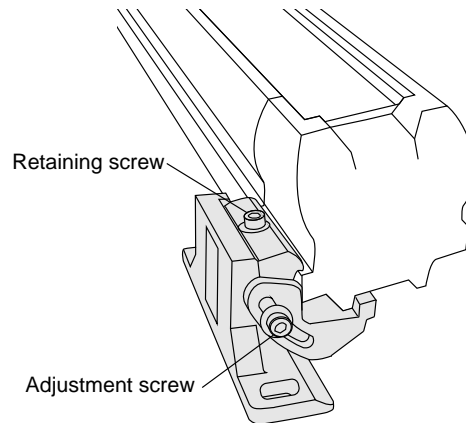

Figure 2-10. Fitting Adjustable Side Bracket to Shadow 9 Head
2. Fit the adjustable side bracket onto the Shadow 9 housing, as shown in Figure 2-10.